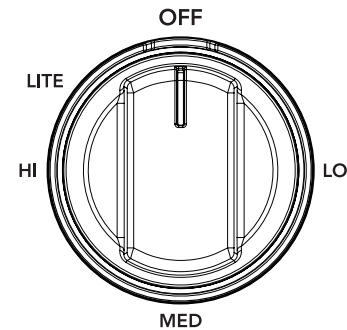

Figure 8: cc
2. Push the burner's surface control knob in and turn counterclockwise out of the OFF position (Figure 8).